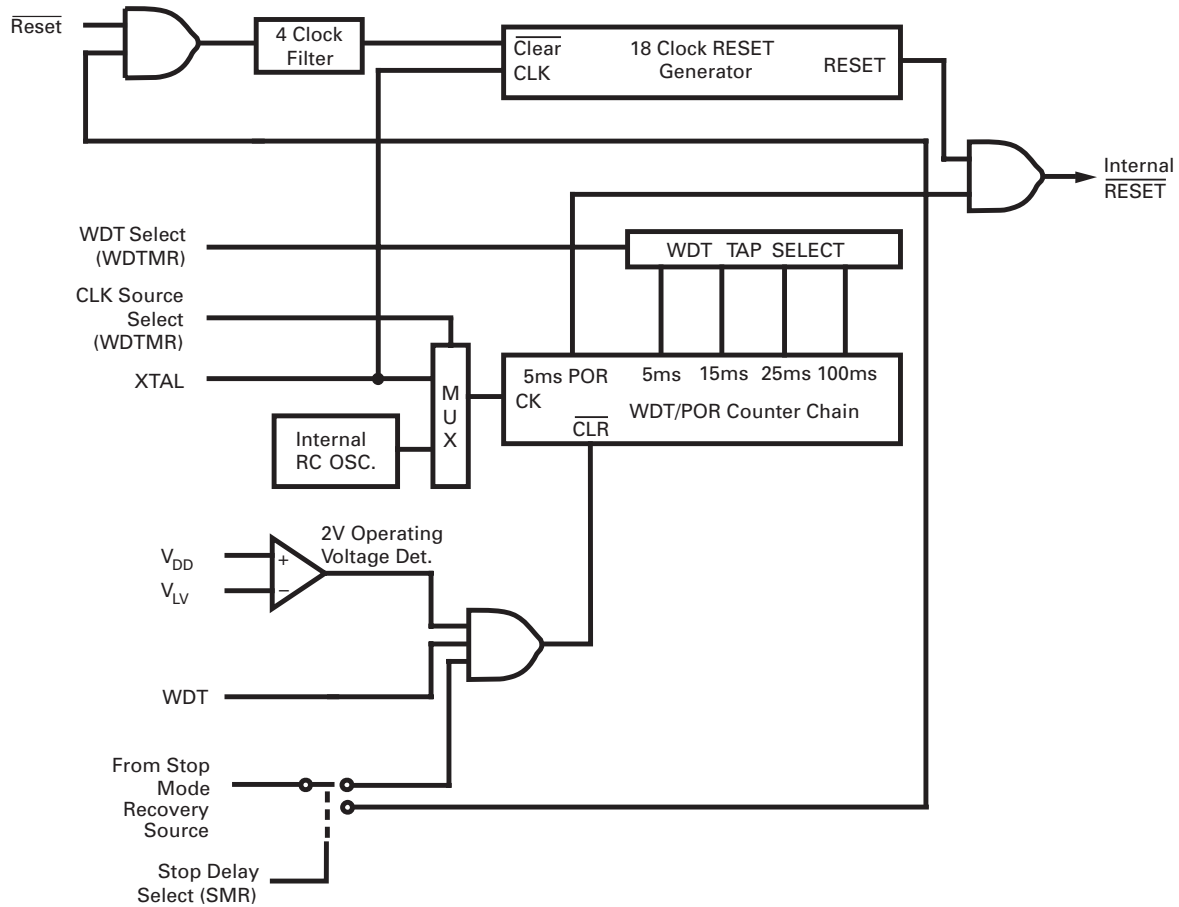

Figure 30. Resets and WDT
**WDTMR Register Accessibility.** The WDTMR register is accessible only during the first 60 internal system clock cycles from the execution of the first instruction after Power-On Reset, Watch-Dog Reset, or Stop-Mode Recovery. After this point, the register cannot be modified by any means, intentional or otherwise. The WDTMR cannot be read and is located in bank F of the Expanded Register Group at address location 0FH (Figure 30).